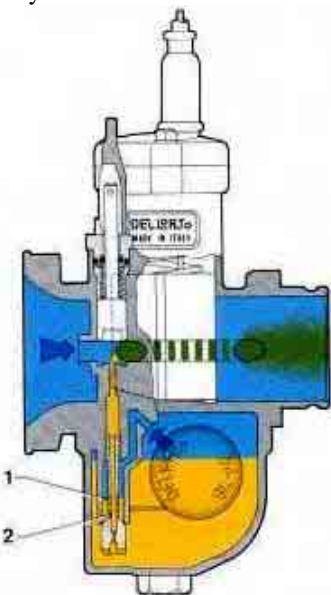

fig.16
**Figure 16** shows the mixture ratio depends entirely on the variety of drillings in the emulsion tube, because air passing through holes (2) draws up fuel which is standing in the jet well (1). In this period, the mixture strength is not determined by the starter jet size but only by the amount of fuel contained in the well above the holes located below the float-chamber fuel level.